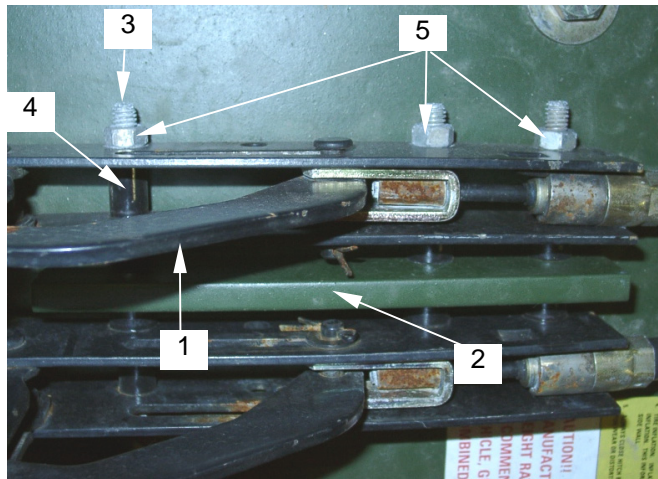

Figure 6. Reinstalling Brake Handle Assembly
6. Reinstall brake handle assembly (**figure 6, item 1**) onto the bracket (**figure 6, item 2**) using retained bolts (**figure 6, item 3**), spacers (**figure 6, item 4**) and nuts (**figure 6, item 5**).